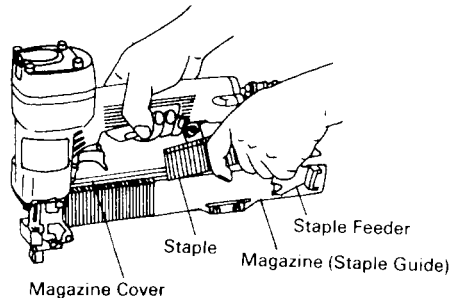

Fig. 5
- (1) Shift the staple feeder to the rear and engage it with the groove of the staple guide.
- (2) Insert series of staples from the top and feed manually to the front. Load separated staples so that they are packed within the magazine cover. (Fig. 5)
- (3) After loading staples, shift the staple feeder to the rear to disengage it from the groove and move the staple feeder so that it secures the staples. Do not allow the staple feeder to slam into the staple strips.